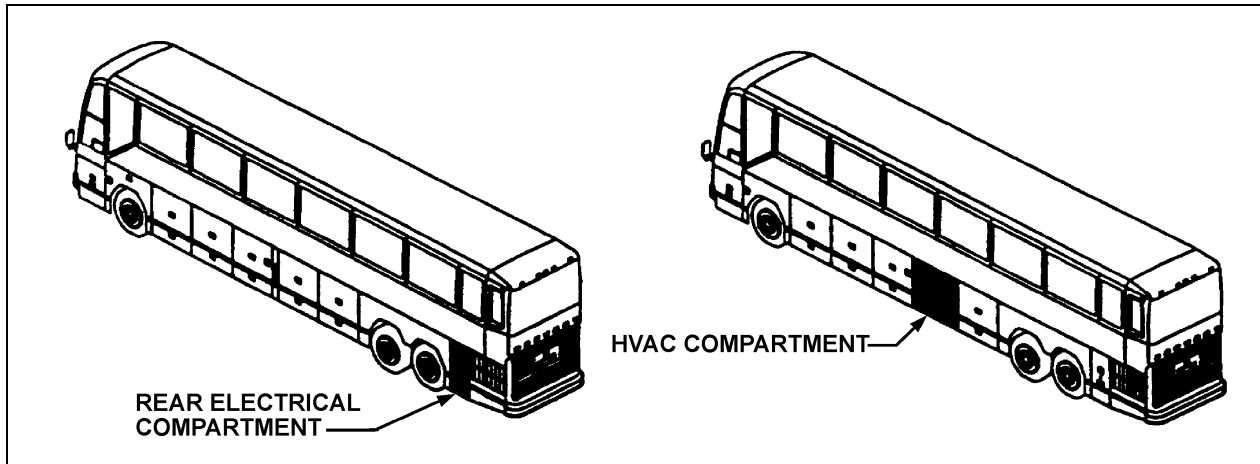

FIGURE 7 : REAR ELECTRICAL COMPARTMENT AND HVAC COMPARTMENT
1. Open HVAC compartment door and rear electrical compartment door (refer to fig. 7).
1. Open rear electrical compartment door (refer to fig. 7).